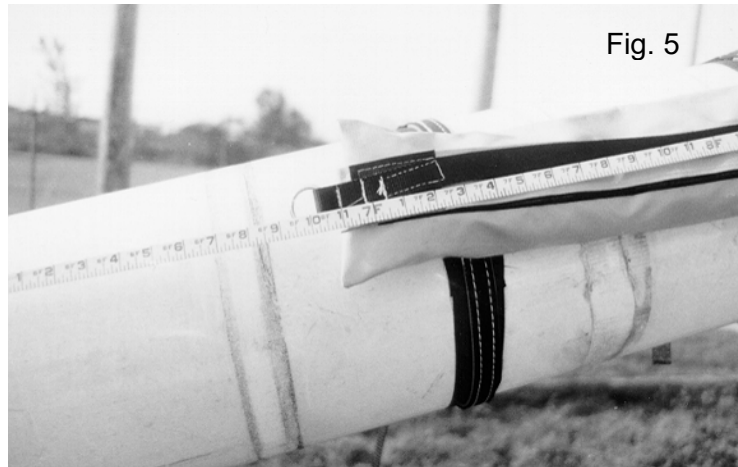

Fig. 5
1. Install the block and tackle storage bag on the boom approximately 10 -11 feet measured to the anchor point of the rescue system from the centerline of the bucket. Taller users may have to mount the bag higher. (Note; Ensure attachment is at adequate height to remove hurt person from bucket.) The storage bag should be mounted on the bucket side of the boom (Fig. 5), except on double bucket trucks, on which the bag should be mounted on the bottom of the boom to facilitate the two buckets. The bag should be installed with the drain hole facing down so as to not allow water to collect in the bag with the boom stored for transit.